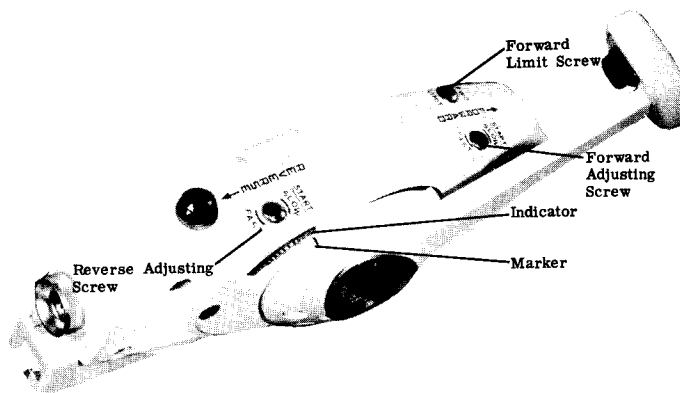

Figure 13. Forward and Reverse Detents
4. Now turn adjusting screw in "fast" direction 6 full turns. (Figure 13)